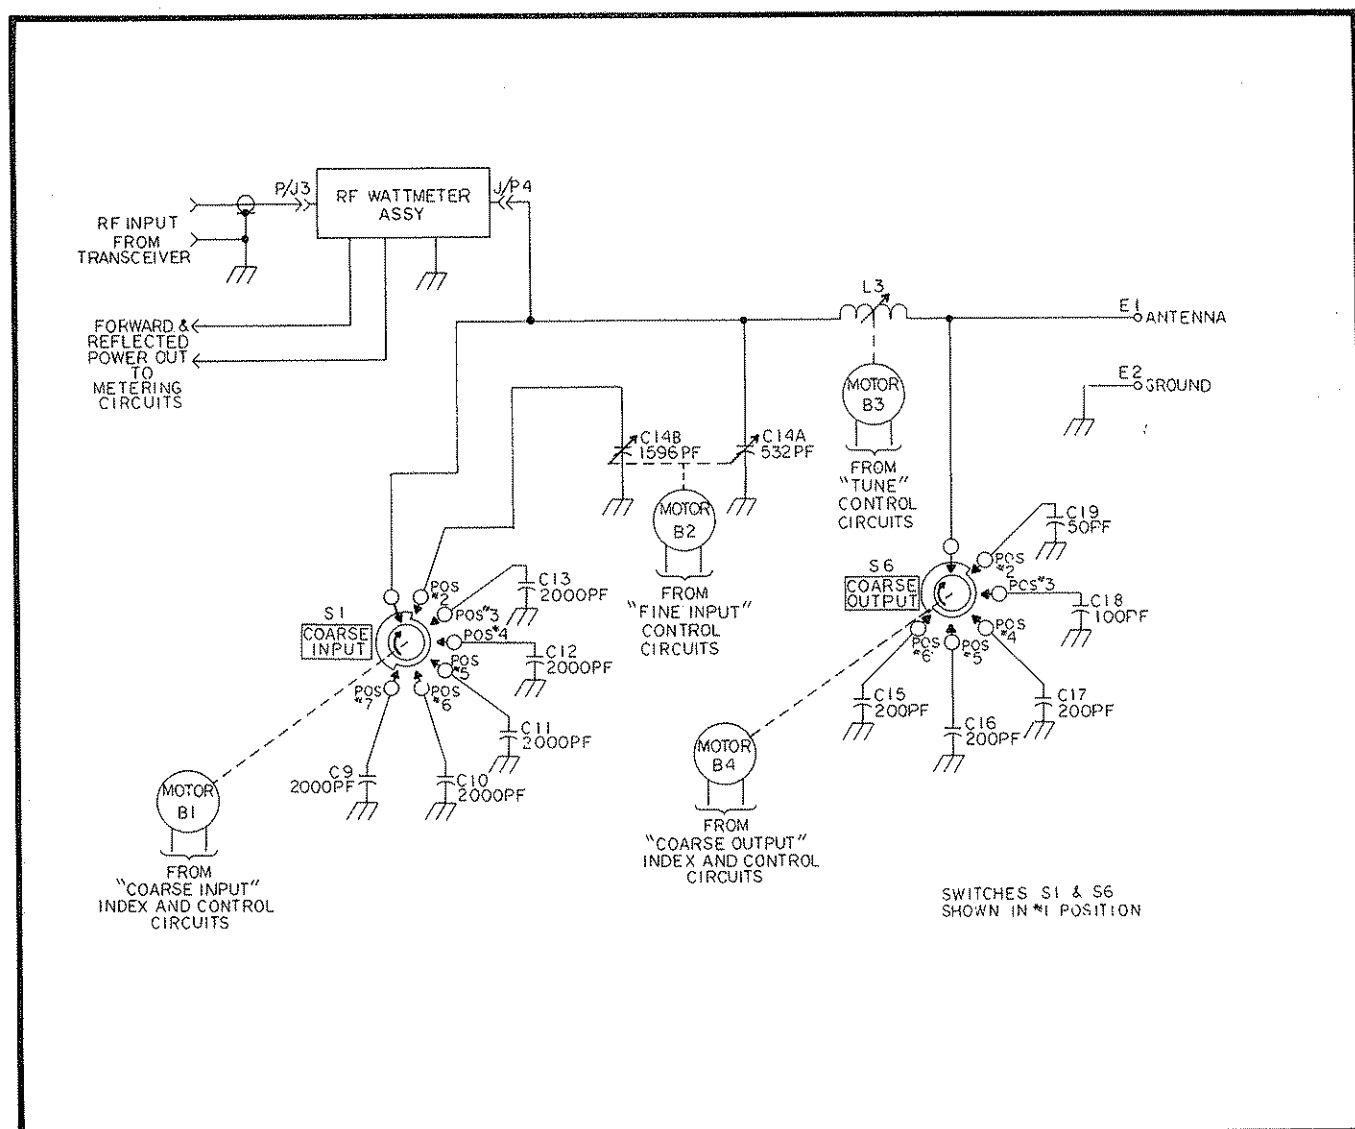

Figure 4.1 Simplified Schematic: RF Circuitry
matching of antennas with a wide range of impedances to the required 50 ohms. The tuning network consists of three elements, (1) input shunt capacitance (2) series inductance, (3) output shunt capacitance. A simplified schematic of the GCU-910A is shown in Figure 4.1 below.